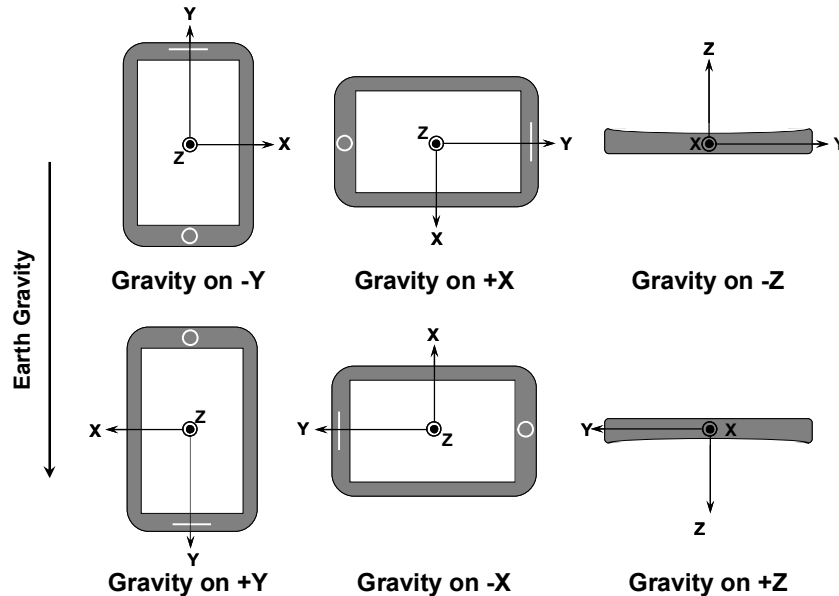

Figure 2: Static Calibration Orientations
**The static g-sensor offset calibration requires the device to be static. And the caller needs to inform which static orientation the device is positioned when conducting such calibration.** The example code illustrates the case in which gravity is acting on the -Z axis. Please refer to Figure 2 for all other static orientations.